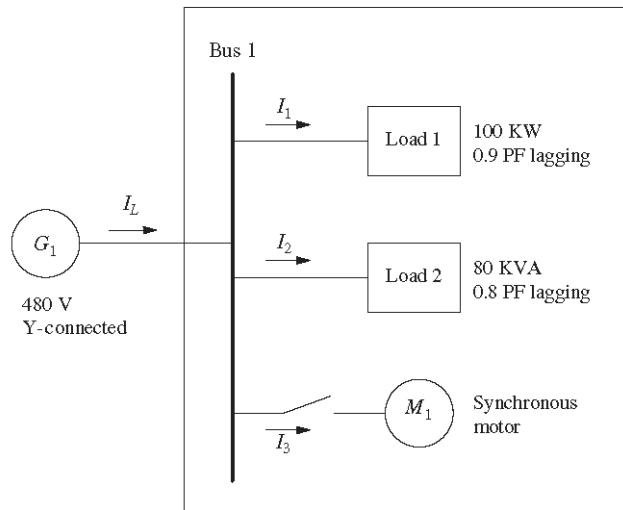
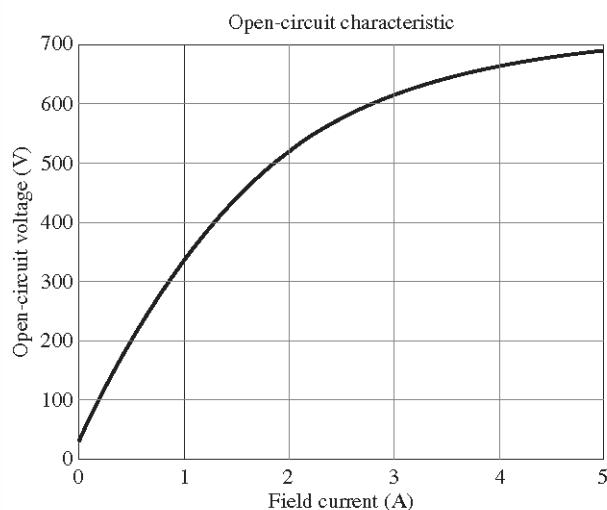

FIGURE P5-3
FIGURE P5-4
- 5-12.** Figure P5-3 shows a small industrial plant supplied by an external 480 V three-phase power supply. The plant includes three main loads as shown in the figure. Answer the following questions about the plant. The synchronous motor is rated at 100 hp, 460 V, and 0.8-PF-leading. The synchronous reactance is 1.1 pu and armature resistance is 0.01 pu. The OCC for this motor is shown in Figure P5-4.